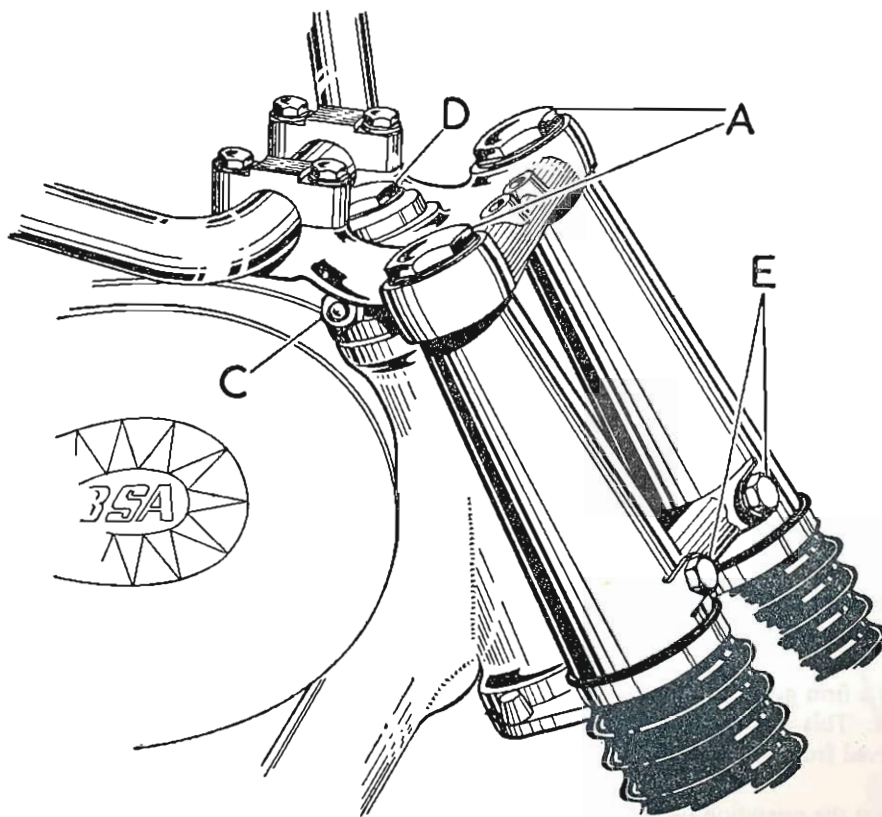
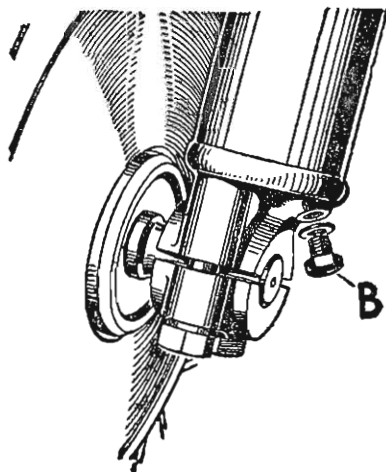

Fig. C33A. *Front fork and steering head.*
Fig. C34A. Front fork drain plug.
First remove the plugs marked (A) Fig. C33A, and take out the drain plugs shown at (B) Fig. C34A. After allowing the oil to drain out, apply the front brake and depress the forks a few times to drive out any oil remaining.
Slacken the clamping nut (c) Fig. C33A, and tighten the cap nut (D) until the adjustment is correct. The handlebars should turn freely, if the movement is "lumpy" it indicates that the top nut is too tight or the ballraces are damaged.
Take out the fork top cap (A) Fig. C33A, and screw tool number 8 41 61-3350 into the thread at the top of the fork shaft using the larger of the fine threads (c) Fig. C36A.